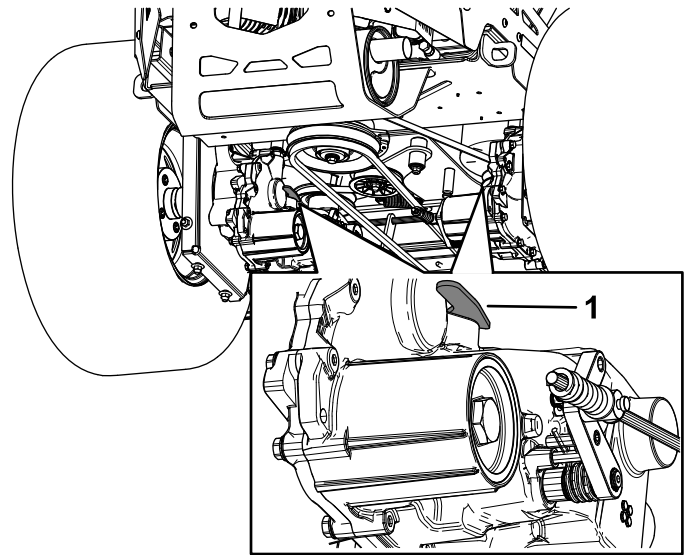

Figure 34
3. To push the machine, move both bypass levers forward and lock them into place (Figure 34).
5. To run the machine, move the bypass levers rearward and lock them into place (Figure 34).